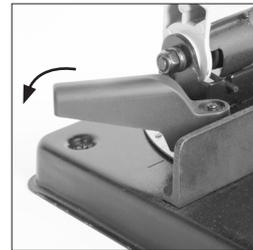

Fig. 6a
- Loosen the Lever Handled Locking Screw. **(Fig 6a)**